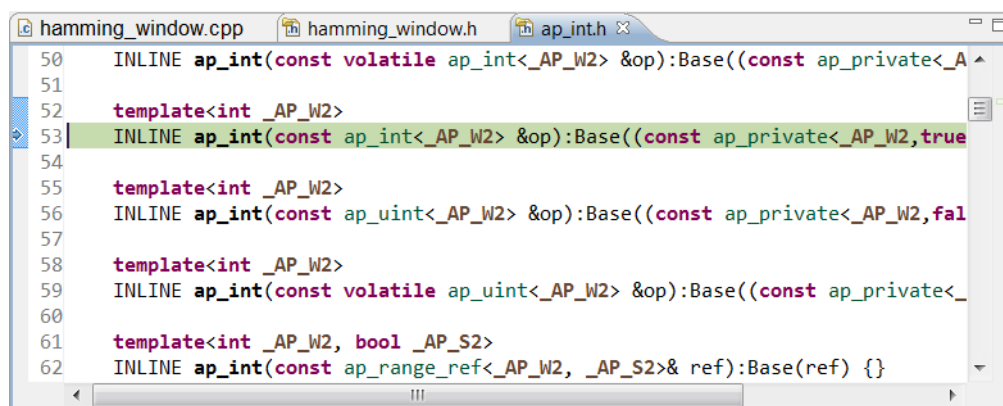

Figure 3-21: Arbitrary Precision Header File
7. Click the **Step Into** button (or press the F5 key) twice to see the view in Figure 3-21.